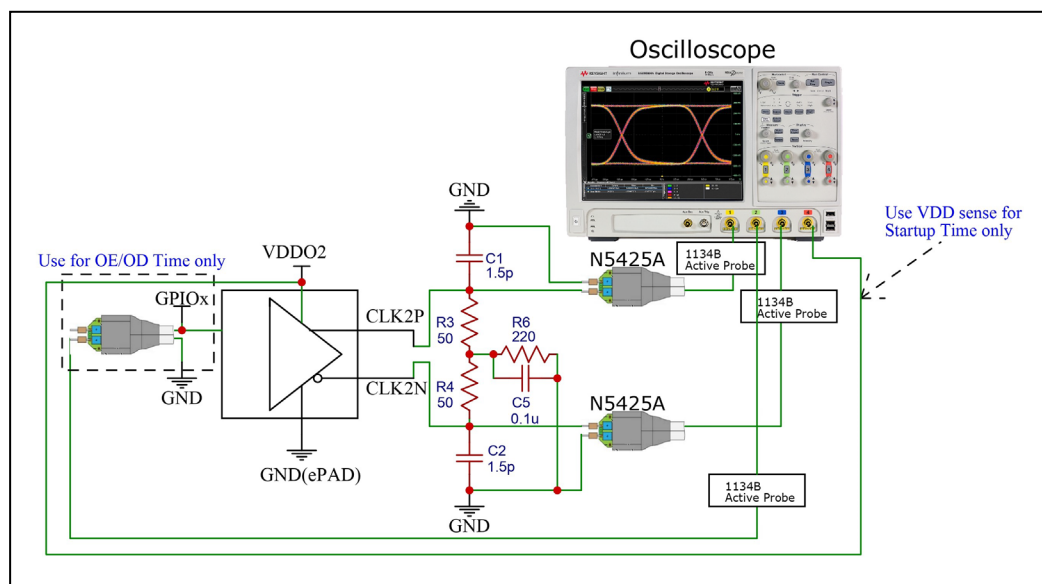

Figure 5. Test setup to measure FlexSwing Waveform Characteristics, Current Consumption^[12], Output Enable/Disable Time, and Startup Time
8. See Figure 5 for the test setup to measure LVPECL Current Consumption with Termination 1 or without Termination.